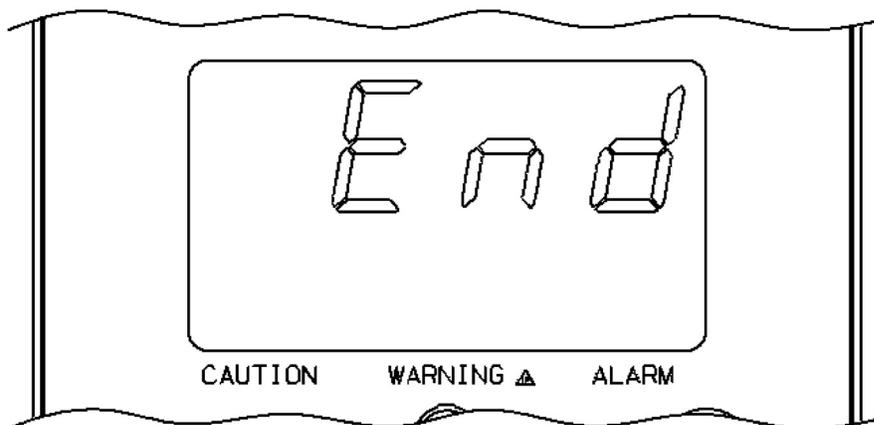

Fig. 34 Calibration End Display
- (9) After the 30 second countdown:
- b) Once the gas value on the display is stable for 15 seconds, the alternating display stops. If the calibration is successful, the display will show END for approximately two seconds. (Fig. 34 "Calibration End Display").